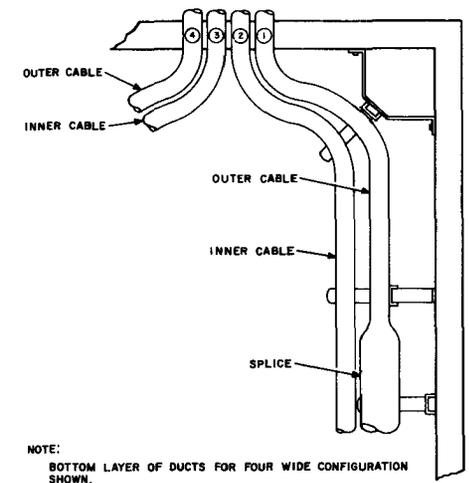

Fig. 1—Cable Positions from Ducts for Racking
1.04 Where the manhole capacity exceeds 20 ducts, cable racking arrangements should be similar to the manholes covered in this section—from bottom to top "outer" cables and then bottom to top "inner" cables. For the purposes of this section, "outer" and "inner" cables are identified as shown in Fig. 1.